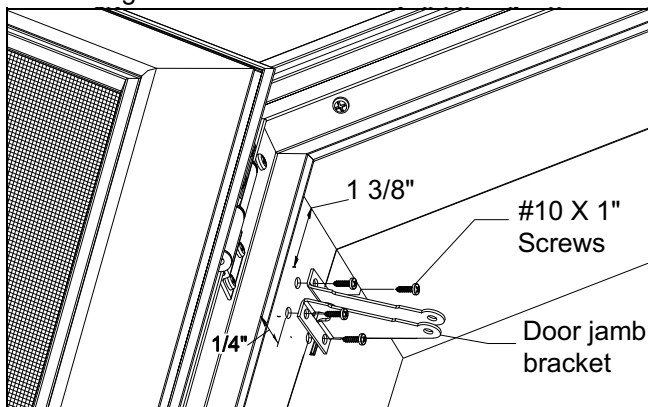

Figure 12
2. For 6 9/16" Jamb Depth: Measure and mark 1 3/8" (35) from head jamb on the primary hinge side jamb. Align the top of the door jamb bracket level with the mark, and 1/4" inwards from screen door panel. Using the door jamb bracket as a template, mark screw holes and pre-drill with 7/64" drill bit. See figure 12.